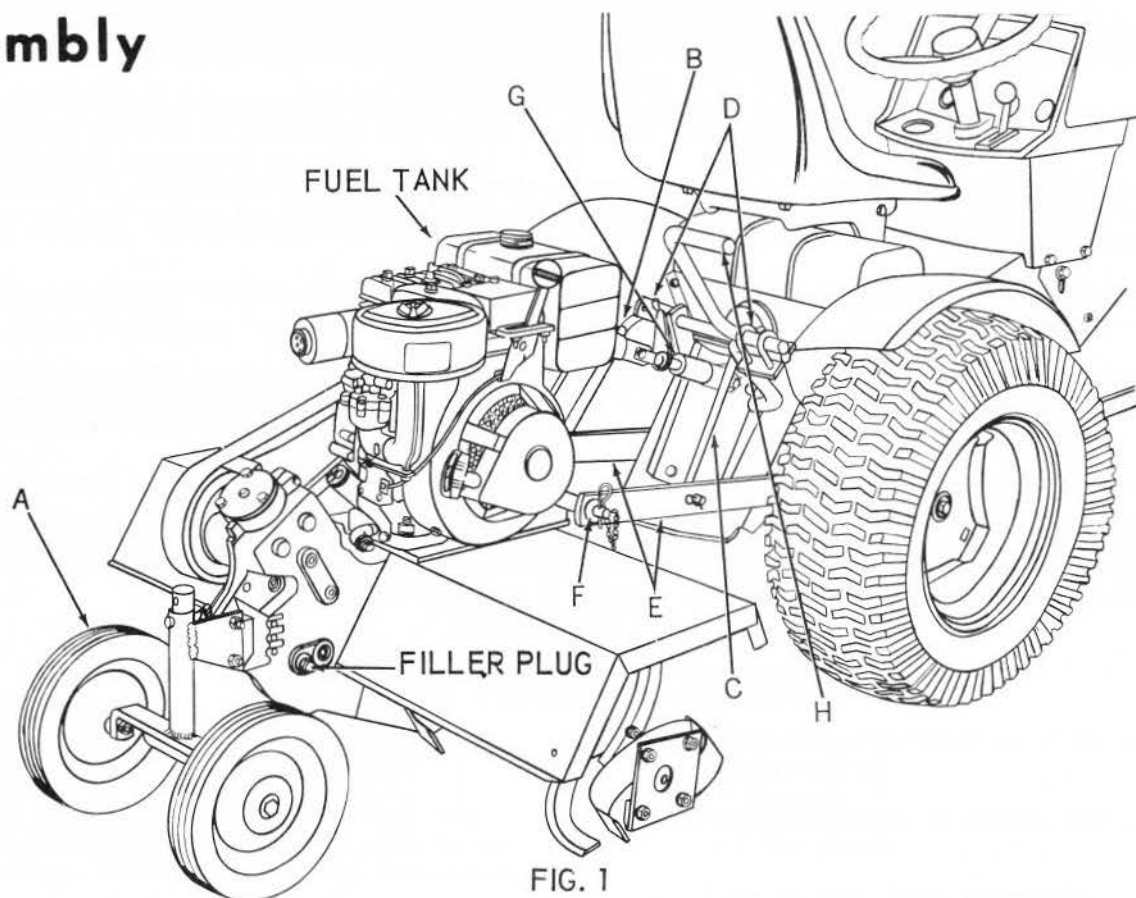

FIG. 1
2. Refer to Fig. 1. Place Spader on level ground where tractor can be backed up to Spader for assembly. Adjust Spader gauge wheels (A), so that engine is level.
4. Refer to Fig. 1. There are two new lift links furnished with Spader. Assemble these new L.H. and R.H. lift links (B and C), to inner holes of each lever crank (D), as shown and secure with retainer springs provided. Lift links and retainer springs will be found in burlap bag. **NOTE:** Offset in links to top as shown.
5. Refer to Fig. 1. Attach lower ends of R.H. and L.H. links (B and C), to bottom links (E), as shown and secure with retainer springs.
6. Refer to Fig. 1. Back tractor up to Spader and attach rear of bottom links (E), to pin (F), on Spader and secure with retainer spring attached to bottom links.
7. Assemble adjustable top link (G), to upper hitch bar. Refer to Fig. 1. **NOTE:** It may be necessary to adjust top adjustable link (G), to assemble link to Spader, and to keep spader level. Secure with retainer spring.
8. Assemble lift handle extension (H), to lift lever with U bolts, plate and huglock nuts. Tighten nuts securely. See Fig. 1. All these parts will be found in burlap bag.